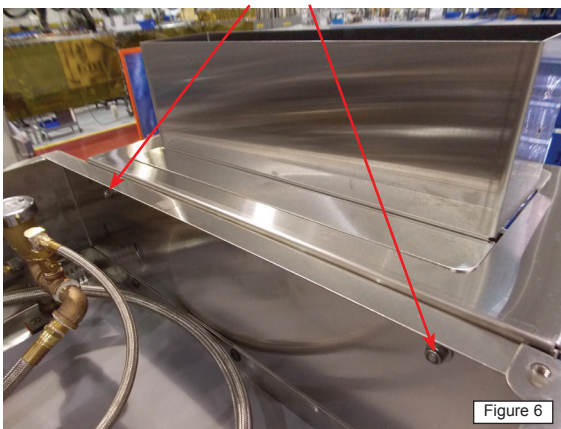
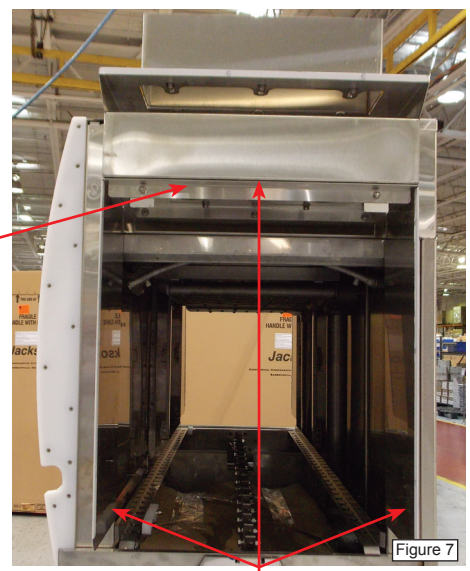

Figure 6
Figure 7
8. Use nut driver to hold the two locknuts on the inside of the dishmachine (see figure 6), while removing the screws from the inside of the ventilation cowl. (shown in figure 7)